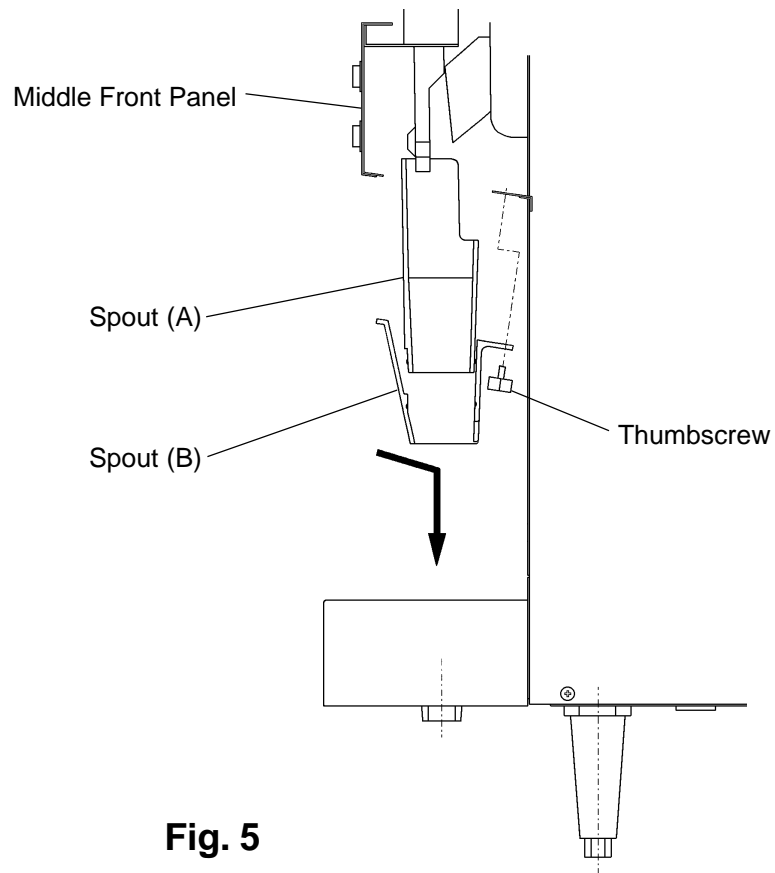
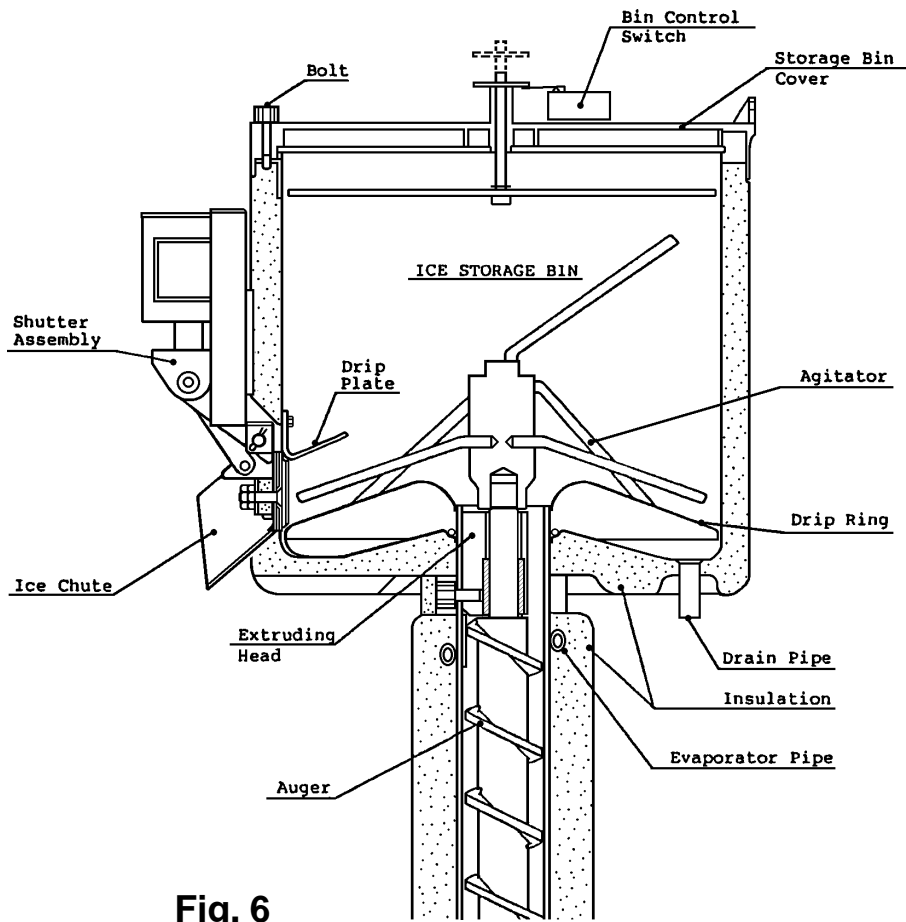

Fig. 5
Fig. 6
- 7) Remove the Spouts (A) and (B) by removing the Thumbscrew, sliding the Spouts backward and then pulling them down. See Fig. 5.
- 8) Pull out Spout (A) from Spout (B).
- 9) Remove the Top Panel and Storage Bin Cover. See Fig. 6.
- 10) Remove the Agitator and Drip Ring. See Fig. 6.
- 17) Wipe the Storage Bin Cover, the Agitator, the Drip Ring and Spouts (A) and (B) using a clean cloth containing the cleaning solution.